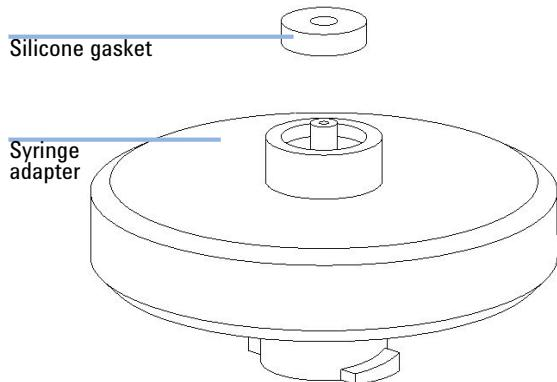

Figure 7 Syringe adapter with disassembled gasket
- 2 Pull out the old silicone gasket with your fingers or tweezers. See Figure 7 on page 138 for a disassembled adapter.